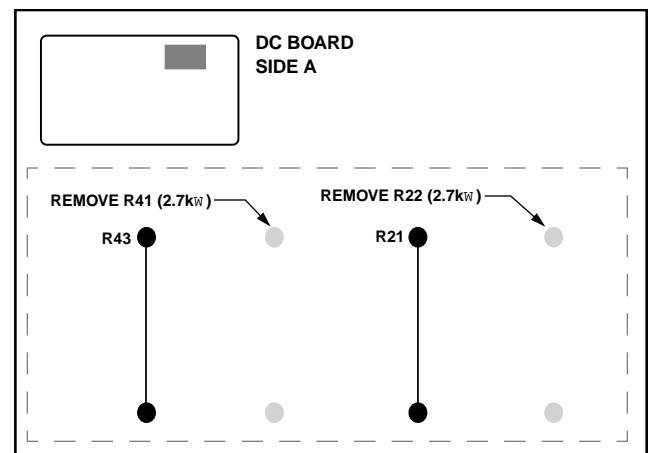

Figure 2
**DC Board, Side A (See Figure 2.)**